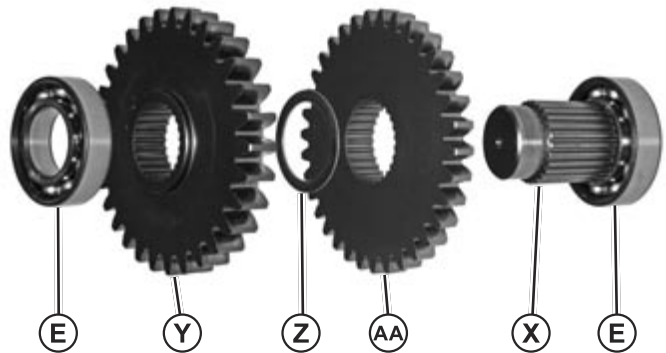

Fig. 46, 4WD Cover Removal
6. Remove the first press bearing (E), gear (Y), washer (Z), and gear (AA) from 4WD reduction shaft (X). Remove 4WD reduction shaft (X), and the second press bearing (E) from the 4WD gear box as a single item. (Fig. 46)
7. Remove press bearing (E) from 4WD reduction shaft (X).